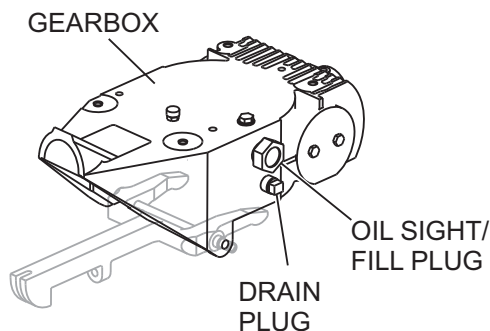

Figure 19. Gearbox
1. Determine if the **gearbox** oil is low by removing the oil plug located on the side of the gearbox. This plug will be marked by the "**check**" decal. See Figure 19. The correct level of the lubrication oil should be to the bottom of the fill plug.